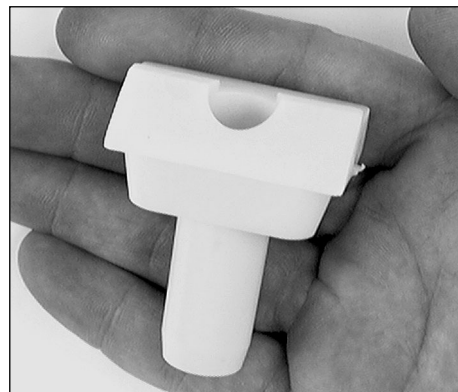

FIG 16
c. Casefeed Funnel Adapter FIG 16:
Some calibers call for the white plastic funnel adapter to be used, located in the casefeed accessory bag FIG 16. It is used for feeding 9mm, .38 Super, .32 H&R, and .380 ACP. (This listing of calibers is repeated in the caliber conversion chart on pages 46-48). Without this funnel adapter these calibers will occasionally hang up in the clear plastic funnel FIG 17 at the top of the casefeed tube.
Note: Occasional jams will occur. To keep them to a minimum, be sure to use the spacer washer **FIG 13** or white casefeed funnel adapter **FIG 16** when called for. Use the low setting if it will keep up with your loading pace, and do not overload the casefeed bowl. The rated capacity of the casefeeder is about 1/2 of the bowl's physical capacity.